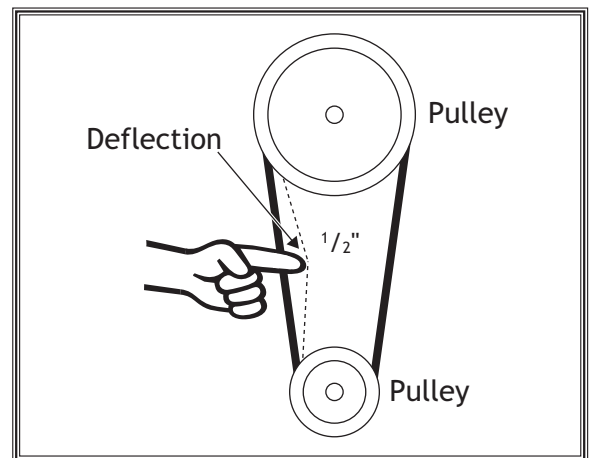

Figure 23. Testing for belt deflection.
6. Press belt with moderate pressure in center to check tension. Belt is correctly tensioned when there is approximately 1/2" deflection when pushed as shown in Figure 23.